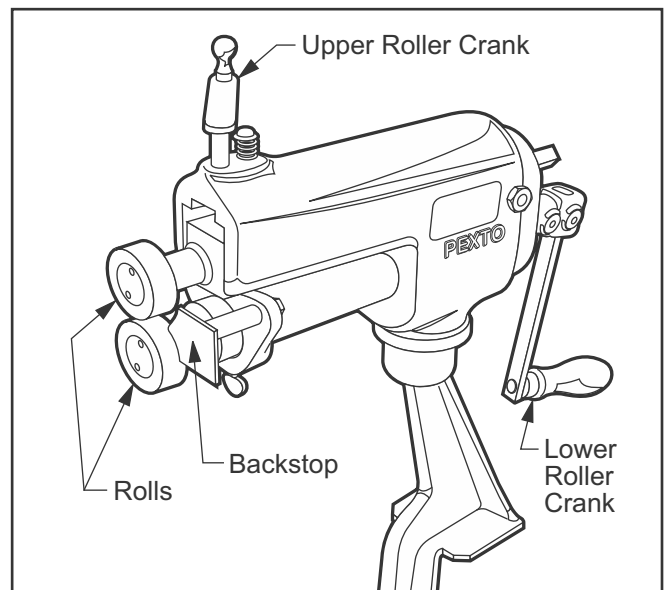

Fig. 19: Flanging Tool Setup
5. Flange Tool Setup: Assemble tool per the manufacturer's directions. (Fig. 19) The rolls must be clean, undamaged and burr free. Any metal filings, chips, dirt or abrasive material will damage the coating. Roll flanges in a clean work site that is not near any grinding or welding operations. The gold colored rolls are custom rolls supplied by Fab-Tech. These rolls are ground smooth and hardened to provide an accurate and burr free surface to work the coating during the flanging process.